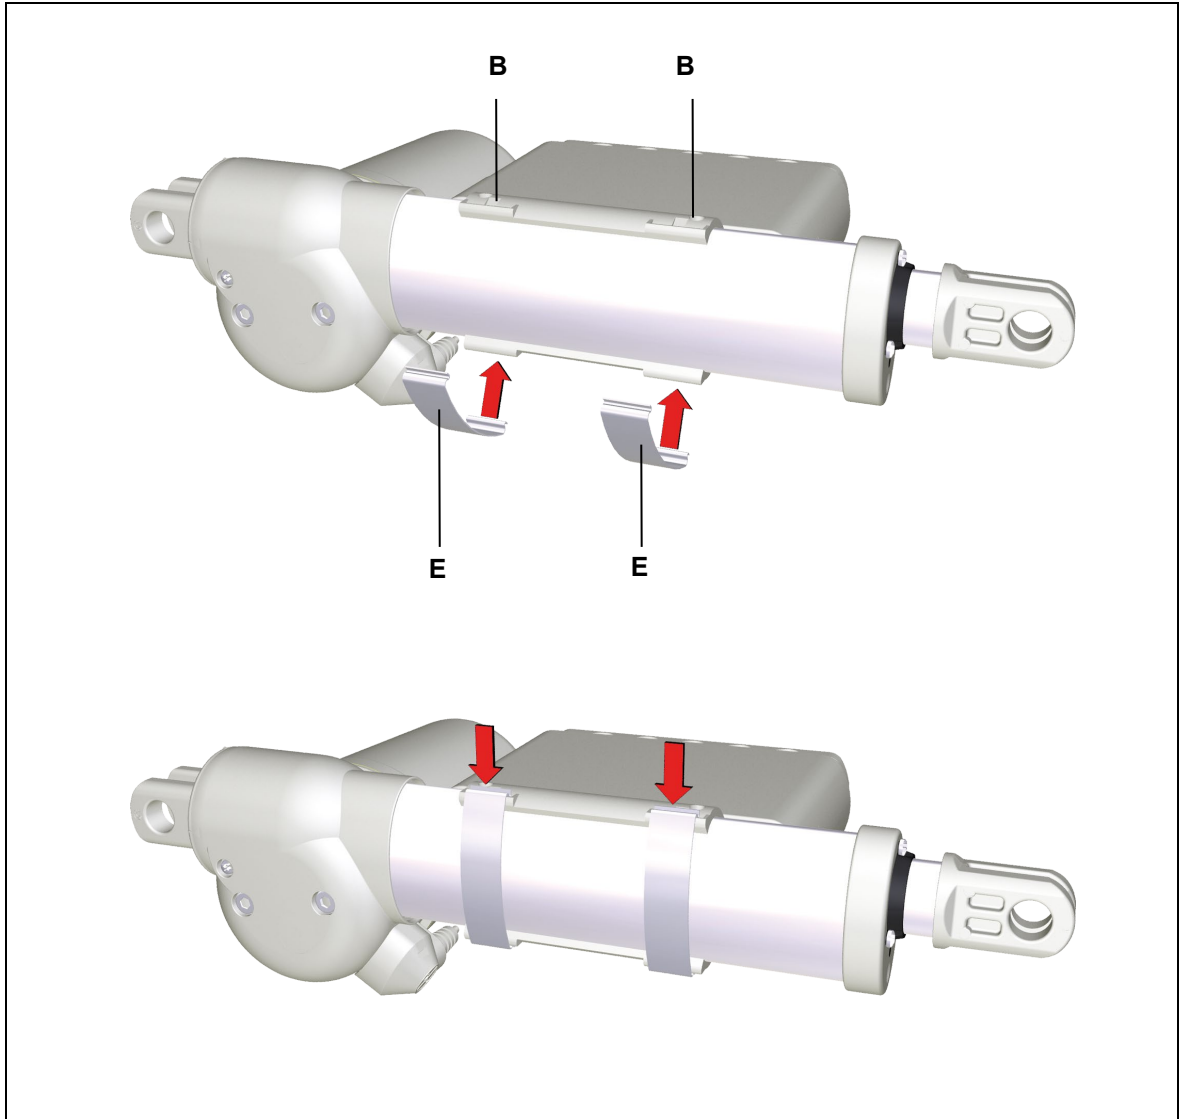

Figure 11 Attaching the mounting clamps
- 4 Loosen both of the mounting clamps on the ECS control unit (refer to Figure 11).